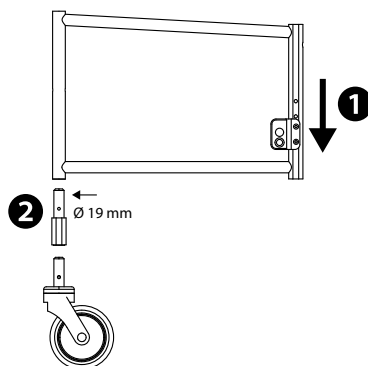

Fig.19
2. Loosen the rear wheel adapter plates and position them in the lower two frame drill holes (1, Fig. 19).
4. Now mount the two height adapters ($\varnothing 19$ mm) between the frame and the swivel wheel (2, Fig. 19) and screw them onto the frame.